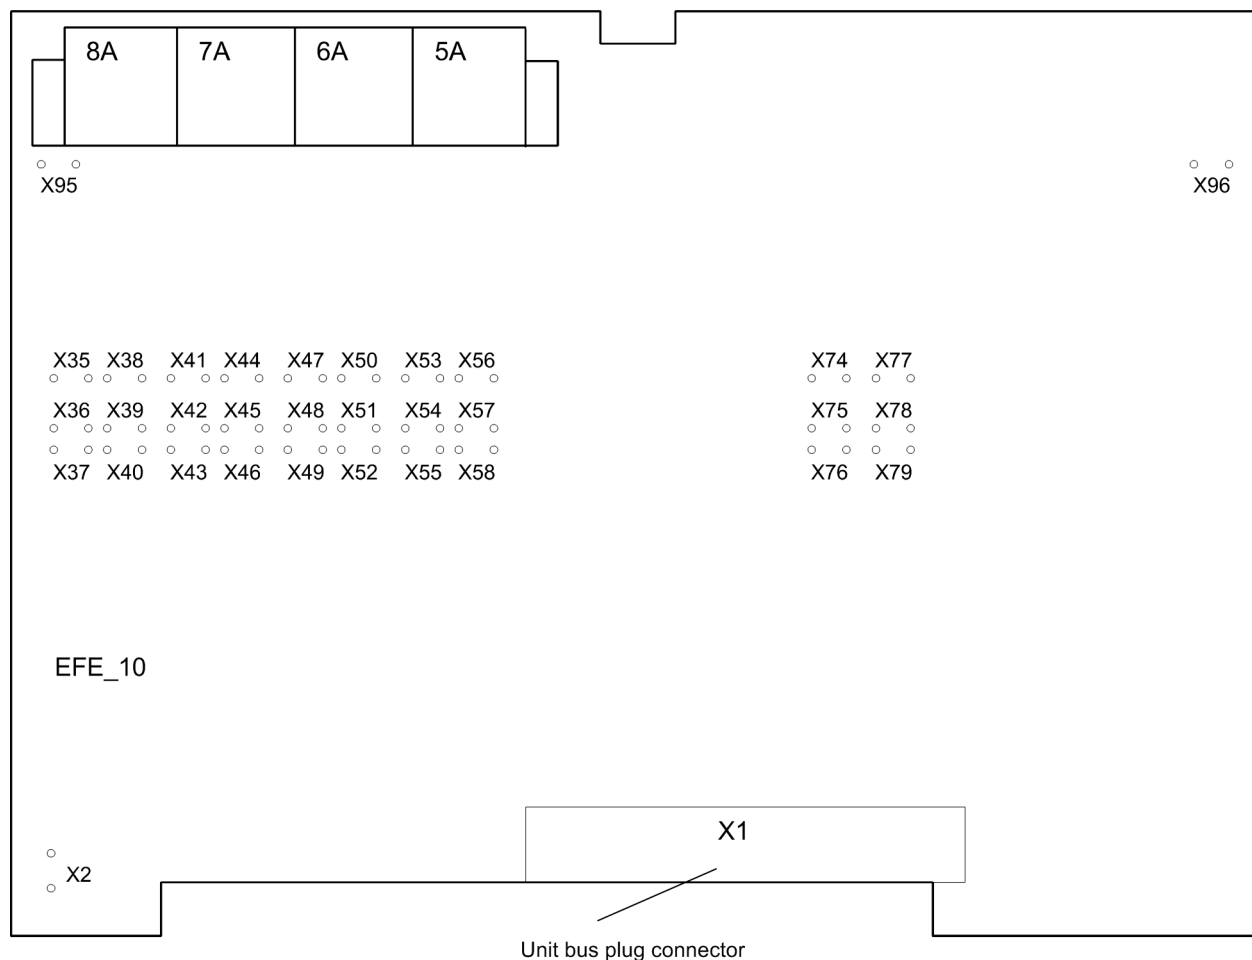

Figure 3-4 Location of the jumpers on the EFE\_10 module (bay unit 7SS525)
- ❑ Remove the plug connector X1 to the front plate on the EFE\_10 module (Figure 3-4, page 36) and pull out the module.
- ❑ Change the rated control voltages of the binary inputs to the desired settings, see Figure 3-4, page 36 and Table 3-4, page 37.